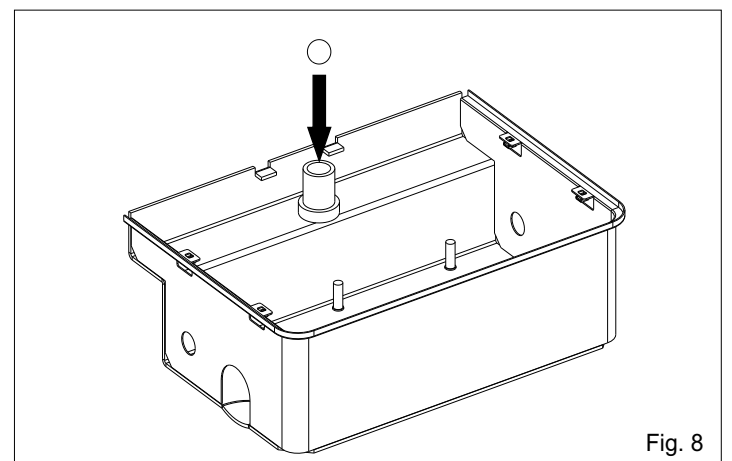
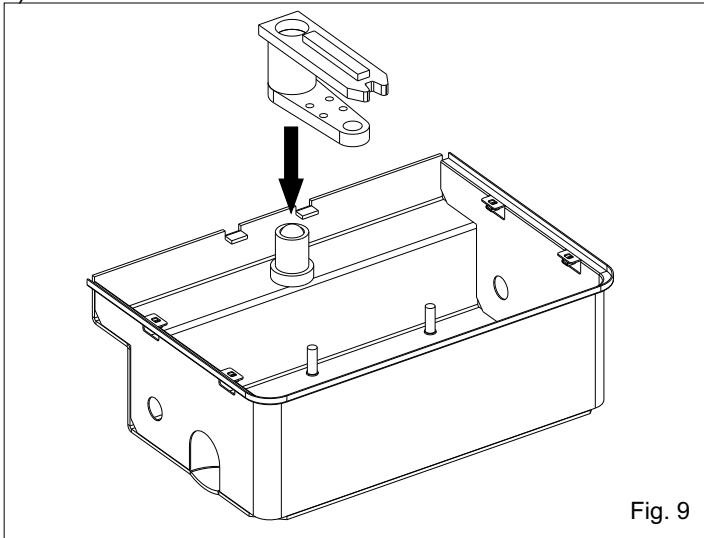
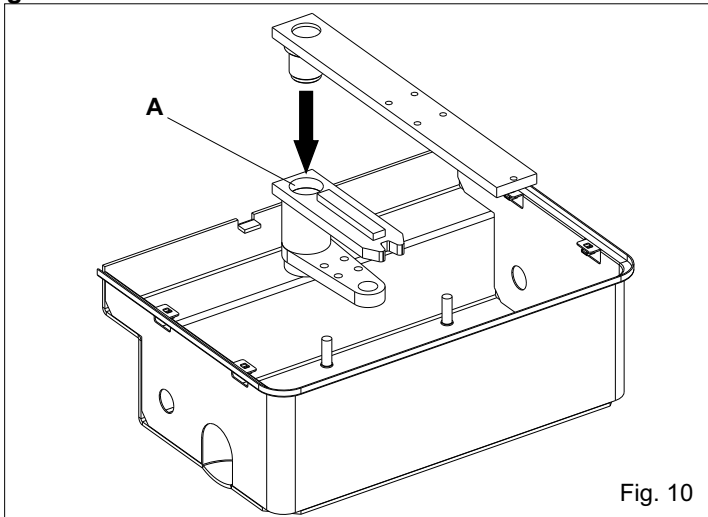

Fig. 8
Fig. 9
Fig. 10
2.4. Insert the ball into the perforated shaft (Fig. 8)
2.5. Insert the handle bar device into the perforated shaft (Fig. 9)
2.6. Grease plentifully the hole A and insert the leaf device (Fig. 10)
N.B.: During the insertion of the units lubricate them with the supplied grease (Fig.8, Fig.9, Fig.10).